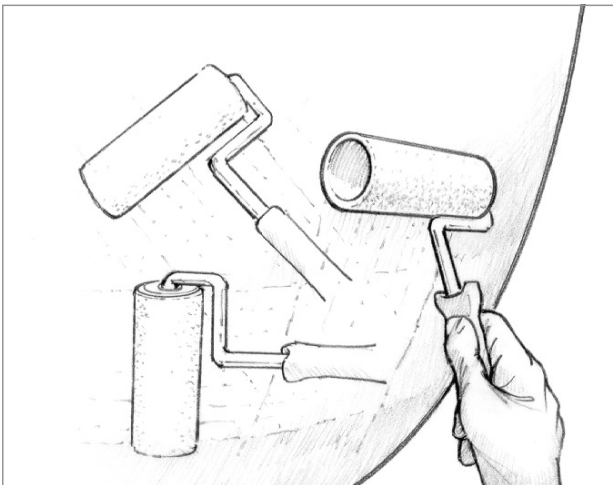

Figure 5-1 Apply a thin, even film of epoxy with a foam roller.
3. Apply the epoxy to the hull following the coating procedure in Section 6.4.4. Spread the epoxy out to a thin even film with the thin foam roller (*Figure 5-1*). Continue applying the epoxy, overlapping small coverage areas until the batch is used up.